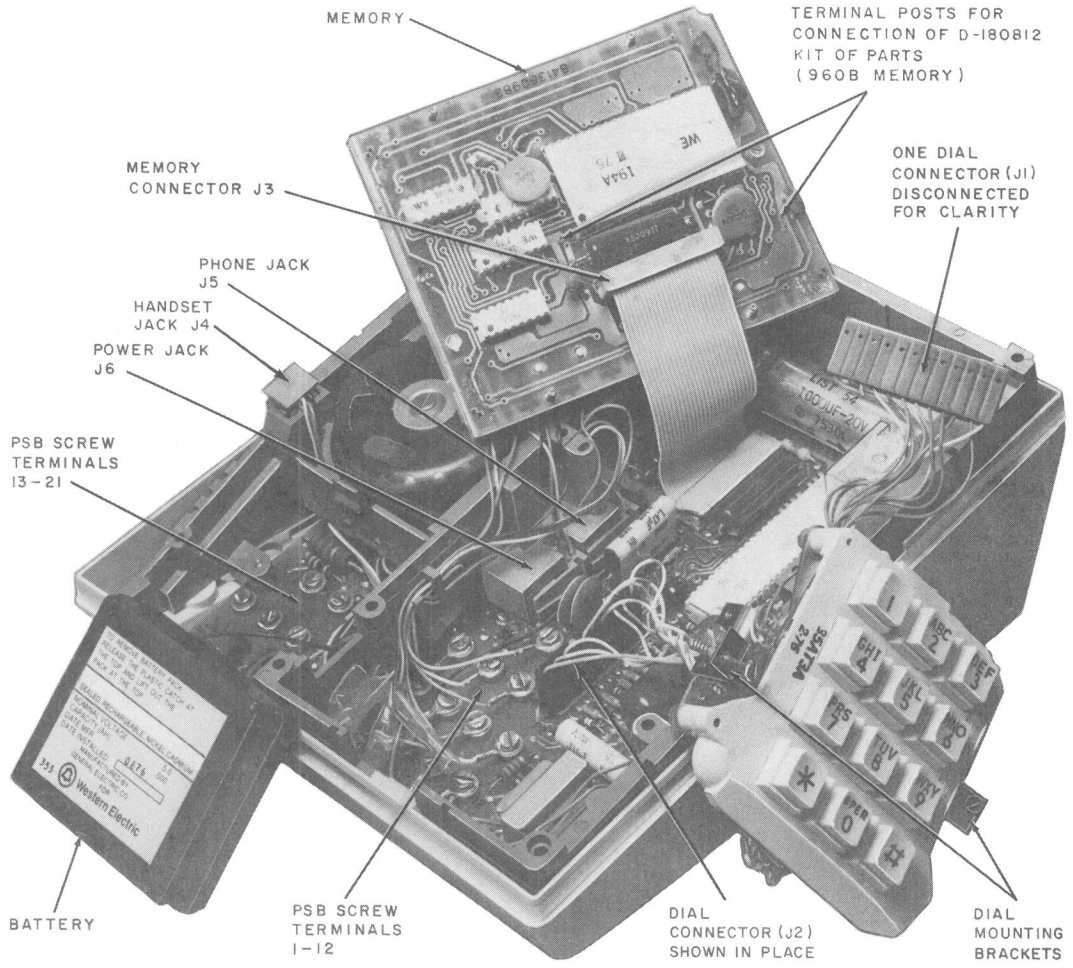

Fig. 6—2960A01M Chassis and Lower Housing With Dial, Memory, and Battery Laid Aside and Shield Removed
- (8) Rotate the right edge of the memory upward (Fig. 6) and connect the three leads to the